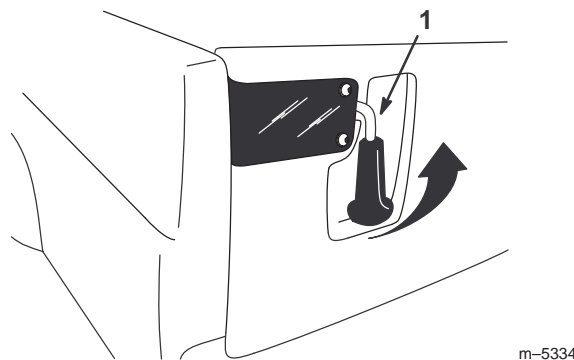

Figure 21
1. To open the tailgate latches, lift the latch handles up (Fig. 21). The latches will spring out toward the center of the tailgate. Slowly lower the tailgate.